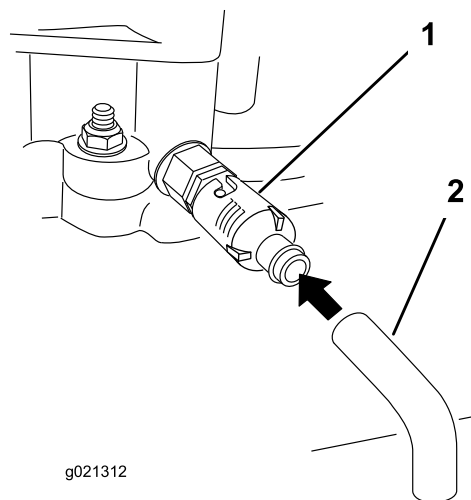

Figure 24
5. Place a pan below the drain hose. Rotate oil drain valve to allow oil to drain (Figure 24).
7. Remove the drain hose (Figure 24).